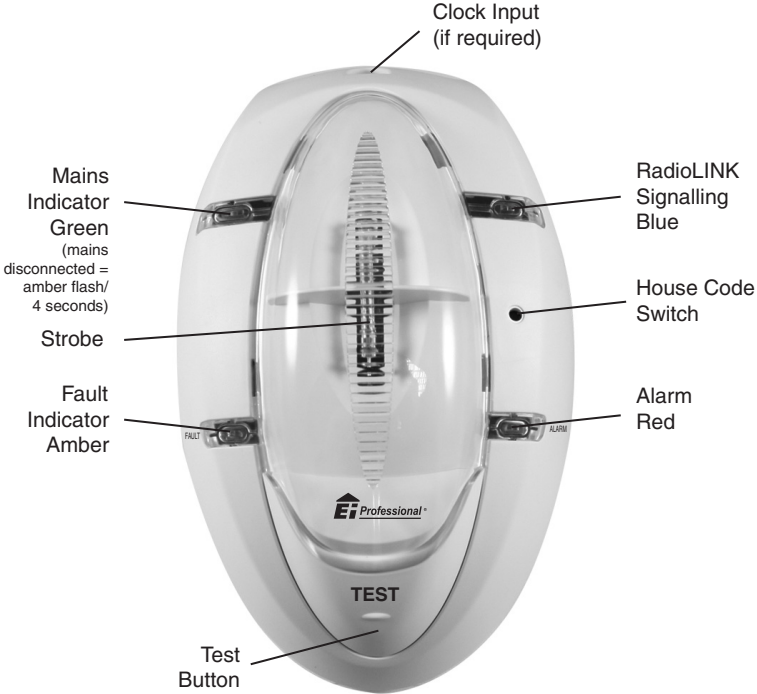

Figure 4
3.1.2 Press the House Code switch on all units – see individual instruction leaflets for switch locations. On the Strobe Module, the House Code switch is pressed by means of small screwdriver (or similar, diameter of top less than 3mm), through the access hole on the top of the unit – see figure 4.
Check the Strobe Module indicator lights as follows (see figure 4)
“Clock Input” Socket: (*not available without a vibration pad*) A suitable alarm clock signal (with a 5 to 24 Volts AC or DC output – electrically isolated from the mains supply) can be connected to this input socket with a 3.5mm mono jack plug. (see figure 4) When the alarm clock triggers, the vibration pad turns on continuously (i.e. it is not pulsed) to wake the person, but the internal strobe or auxiliary outputs are not activated. This lets the user know it is a wake-up call and not a fire. Therefore the user needs only one vibration pad under their pillow or mattress – rather than two, one for the Fire Alarm and one for the alarm clock.